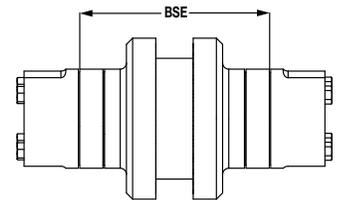

Figure 2 - BSE Dimension
3. Position the shafts to the desired "BSE" dimension (Figure 2).